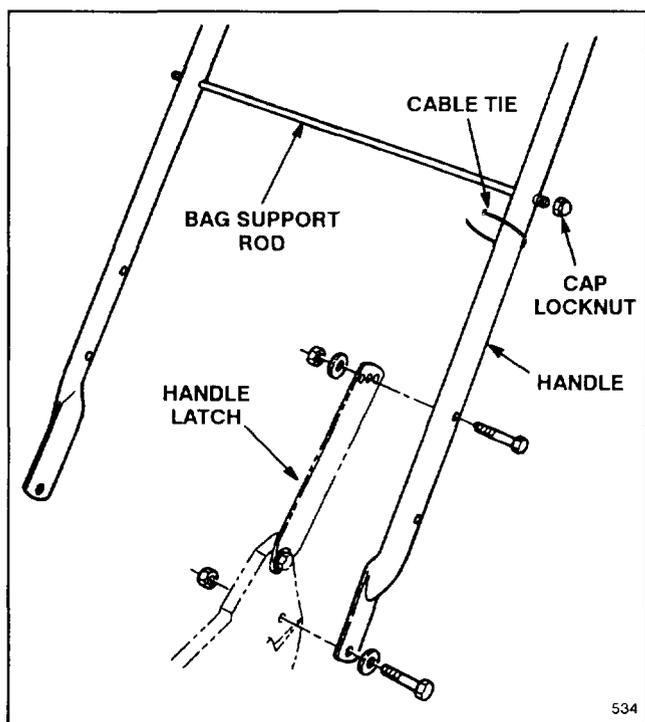

Figure 1
### INSTALL HANDLE (Fig. 1)
2. Secure handle latches to handle with (2) 5/16-18 x 1-1/2" lg. capscrews, washers and nylon insert locknuts. Position locknuts and washers on inside of handle.
4. Use a cable tie to secure the control cables to left handle below the bag support rod (Fig. 1).